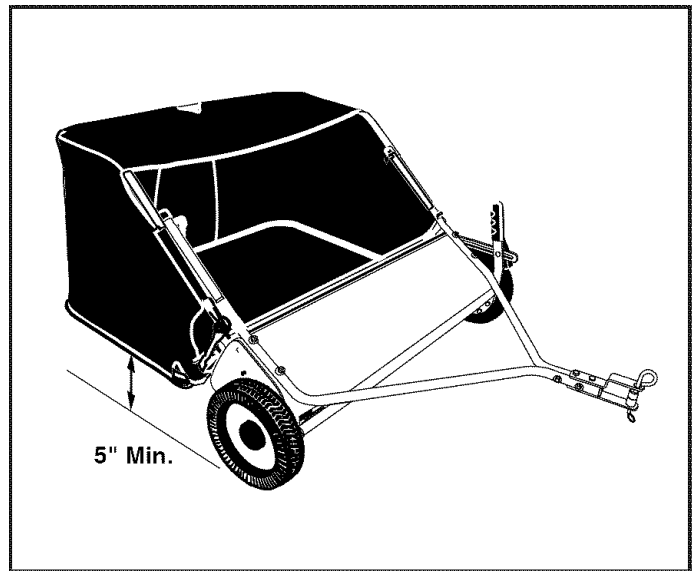

FIGURE 22
STEP 16: (SEE FIGURE 22, 23 AND 24)
IMPORTANT: For best performance, the bottom of the sweeper bag should be approximately level and 5" to 7" off the ground as shown in figure 22.
- To adjust your sweeper brushes to the best operating height, loosen the adjustment knob and push down on the height adjustment lever to raise the brush, or push up on the lever to lower the brush. See figure 22. Best adjustment is when the brush setting is 1/2" down into the grass. Always mow the grass to an even height before sweeping.